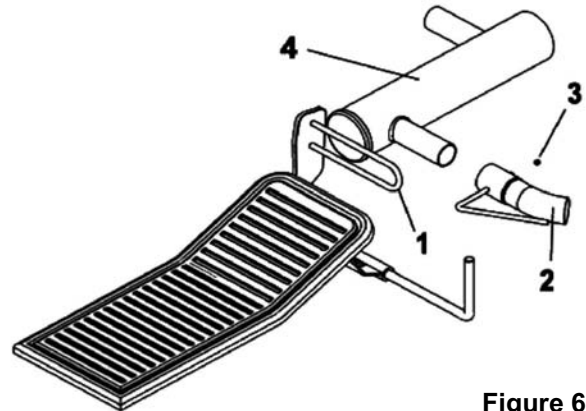

Figure 6
Make sure to put the cab between the guard (fig 6, item 1) and the footrest to prevent heat damage from the muffler.